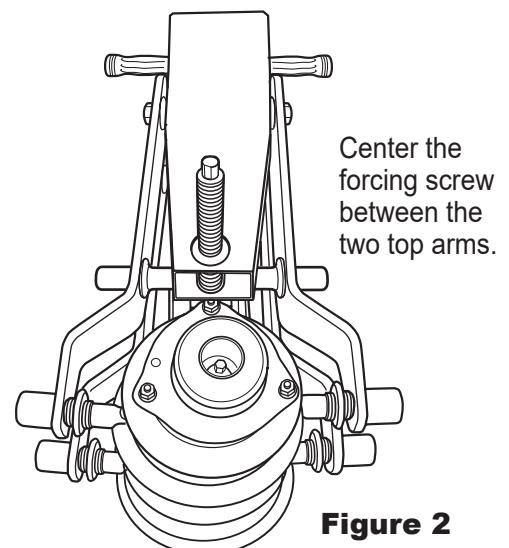

Figure 2
8. Equally space the top arms on the top trunnion as shown in Figure 2. The forcing screw must be centered between the two top arms.